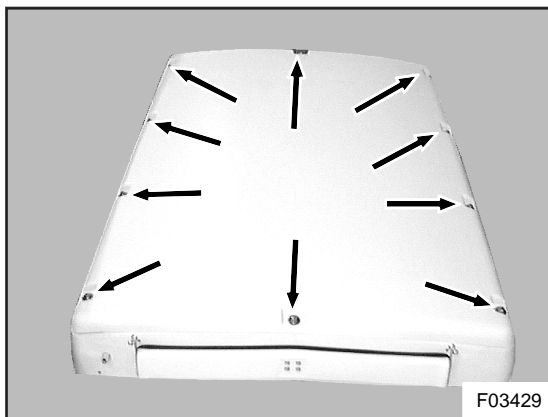

Figure 1: Location of twistlocks on cover plate
2. Working on the roof of the vehicle, undo the 10 twistlocks securing the cover plate of the rearward compartment of the AC35 rooftop unit (see figure 1). To unlock, push the twistlock down with a large screwdriver and turn 1/4 turn counter clockwise. Remove the twistlocks except for the two on the centerline, which cannot be removed. Store twist locks away for further use.